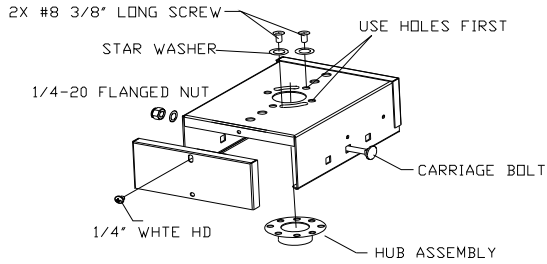

FIGURE 2:
- 6) PENDANT KIT W/ HUB OPTION, assemble the hub components as shown in FIGURE 2. Follow step 5 for threaded pendant installation. Do not lean on the fixture or apply uneven force on top of the fixture or you will damage the hub assembly.